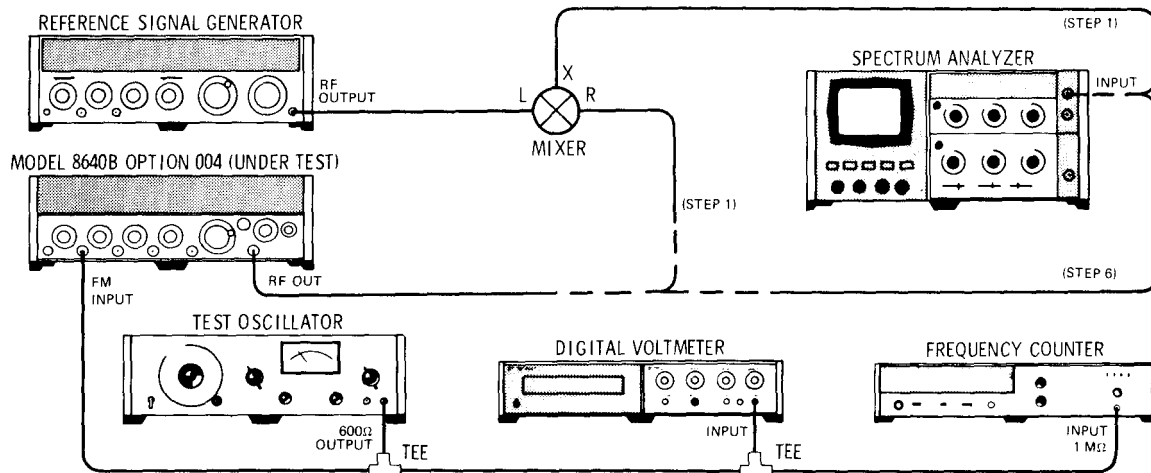

Figure 4-30. FM Sensitivity and Accuracy Test Setup
1. Connect equipment as shown in Figure 4-30 (with test Signal Generator connected to mixer, and mixer connected to analyzer) after setting test generator's controls as follows: